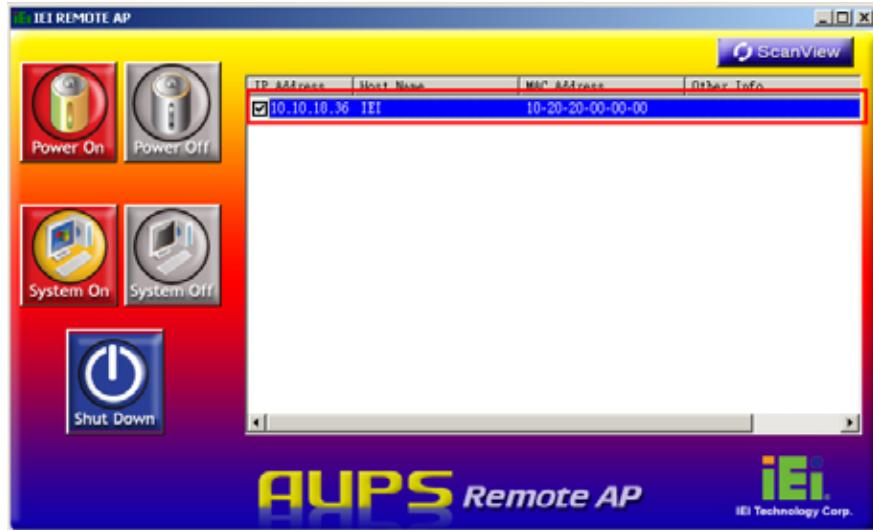

Figure 8-17: IEI REMOTE AP – IP Address
Step 11: To access the web interface for advanced monitoring and functions, double click the IP address of the connected eKINO-945GSE (**Figure 8-17**).